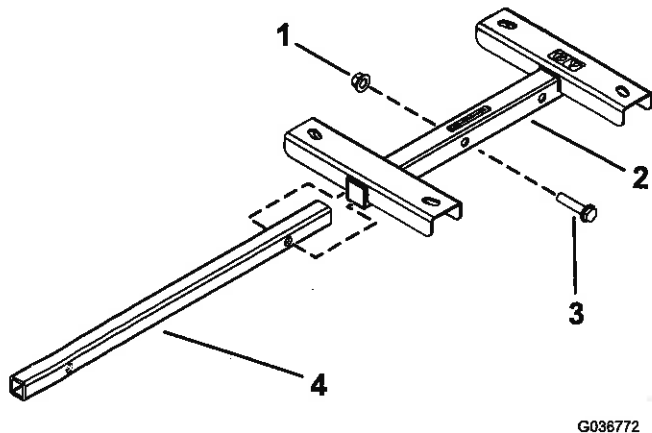

Figure 4
1. Insert the tube mount into the hose-reel mount until the holes in the tube mount align with the front holes in the hose-reel mount (Figure 4).
2. Secure the tube mount to the hose-reel mount with the hex-head screw (1/2 x 2-1/4 inches) and the locknut (1/2 inch) as shown in Figure 4.